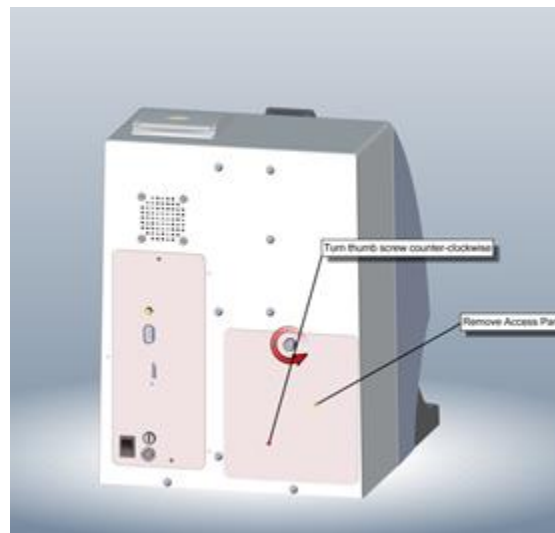

Figure 2
2. Remove the Needle Access Door by turning the Thumb Screw counterclockwise and pulling the door outwards and upwards (see Figure 2).